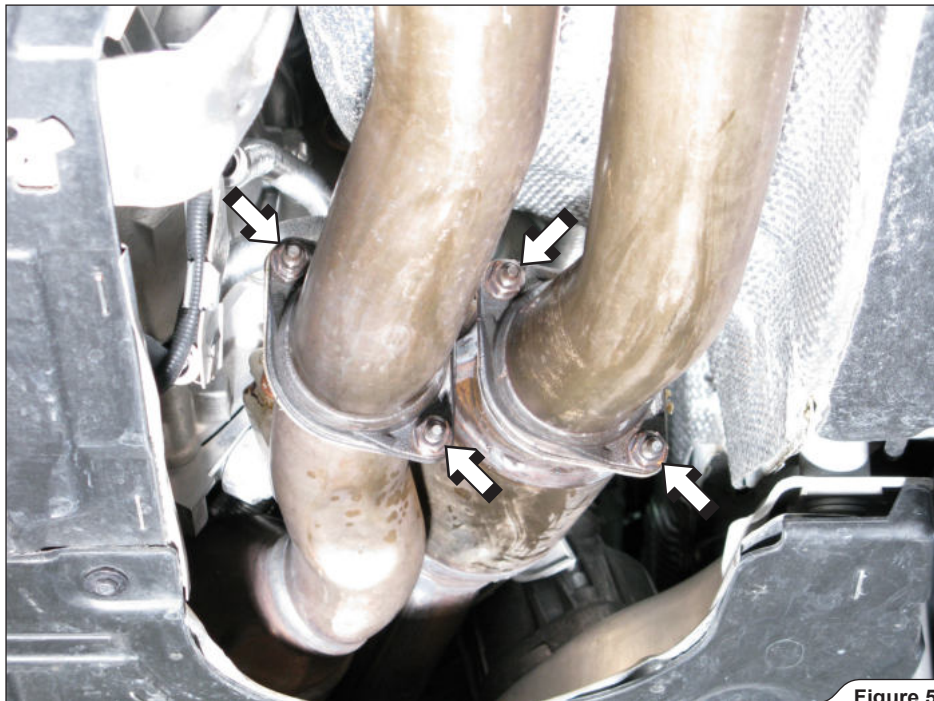

Figure 5
5. **For Evolution:** unscrew the marked flange nuts and remove the link pipes off the vehicle (Figure 5).